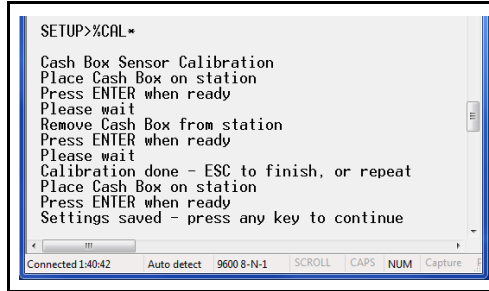

Figure 13 "Setup>%CAL*" Menu
3. Follow the instructions shown on the HyperTerminal Screen, as shown in Figure 13.